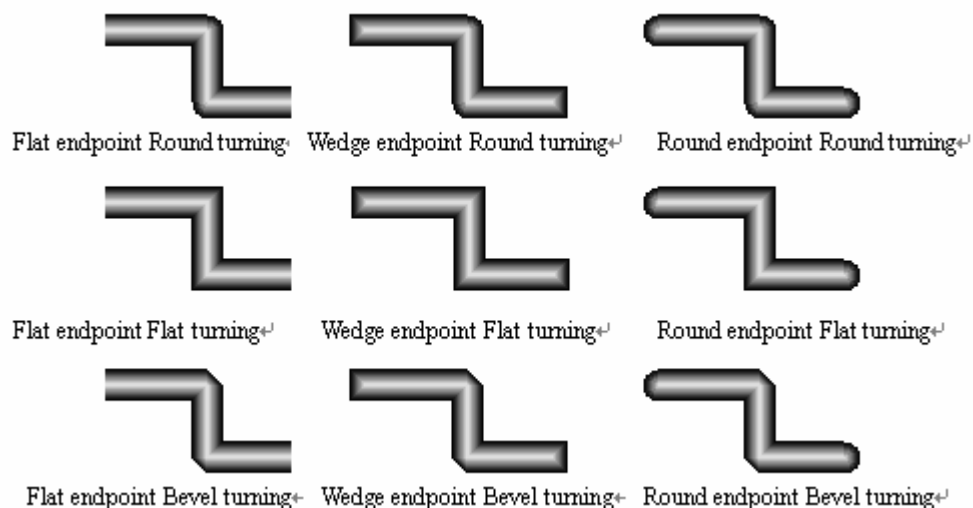

Figure 3-5 Pipe figure effects of different vertex shapes
4. Click “OK” after selecting the shape of Pipe's endpoint and turning. Pipe figure effects of different endpoints and turnings are displayed in Figure 3-5.